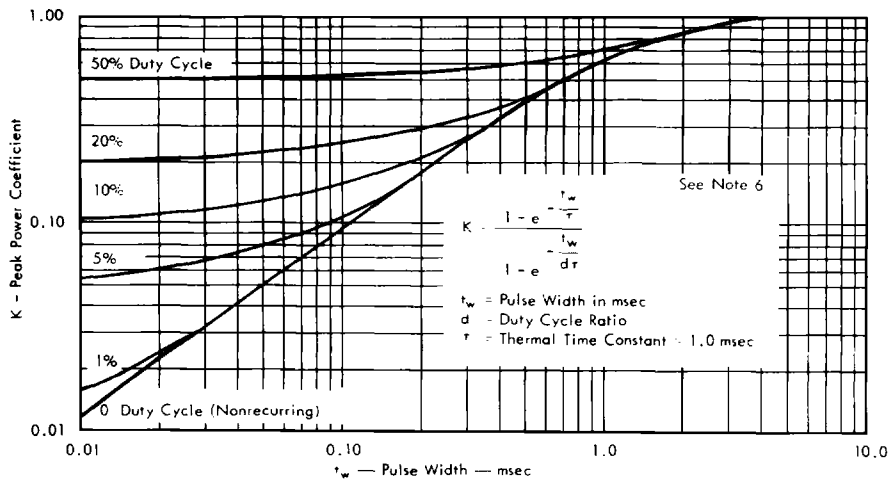

FIGURE 14
3. These values apply for rectangular waveshape. See Figure 14 for allowable pulse width and duty cycle combinations. Derate linearly to 100°C case temperature.
From Figure 14 Peak-Power Coefficient,